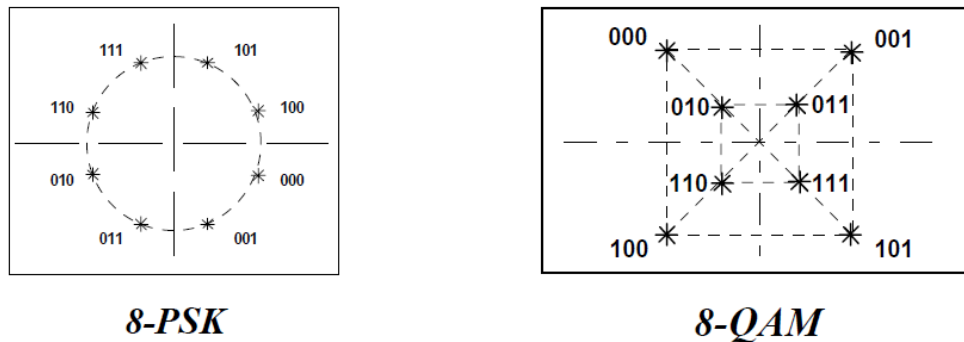

Figure 3: constellation diagrams
For example, the points could be in a circle - such as in m-PSK, or in a square grid, as in m-QAM. These constellations are illustrated below in Figure 3, for the case $m = 8$. In these cases the binary serial data stream has been encoded using frames of three bits.
- T19.** Q3 how many levels are there from each of the outputs of the M-LEVEL ENCODER module for an 8-PSK signal? If these cover the range ± 2.5 volts, specify the levels for each of the points in the constellation of Figure 3. Repeat for other constellations. Compare with measurements.